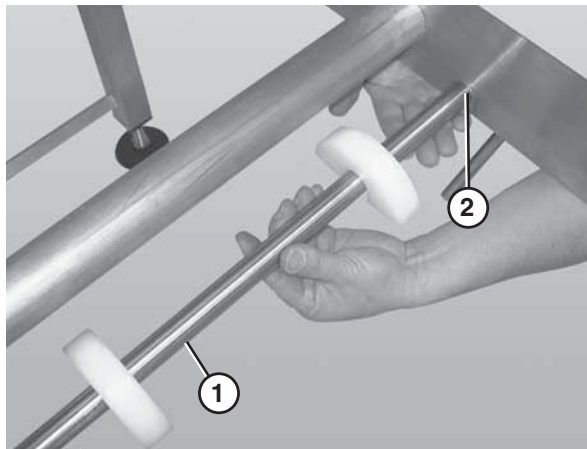

Figure 50
2. Slide the return shaft up (**Figure 50, item 1**) and through the large slot (**Figure 50, item 2**) in the frame (picture shown without the belt or wear strips).
3. Push up on the return shaft (**Figure 50, item 1**) and slide the notched end of the shaft through the small slot on the opposite side of the frame.